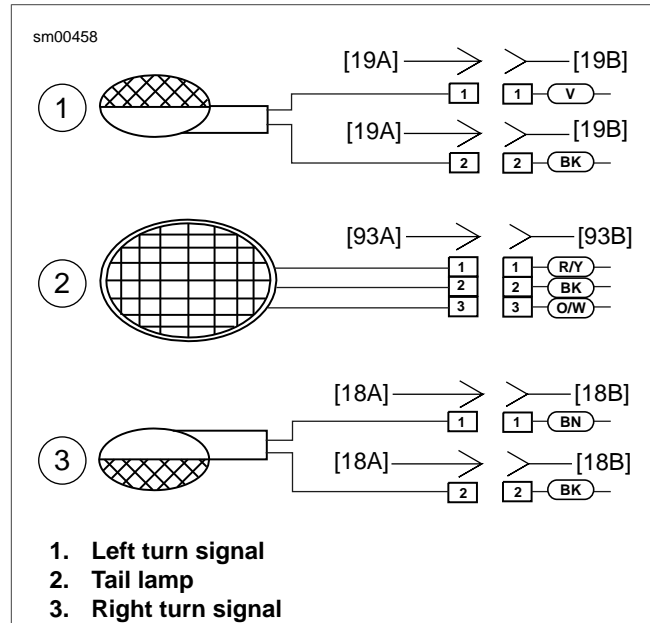

Figure 6-53. Rear Turn Signal Connections: Ulysses
3. See Figure 6-53. Separate left turn signal connector [18] and right turn signal connector [19].
2. Attach turn signal using lockwasher and jam nut (4). Tighten fastener to 25-28 **in-lbs** (2.8-3.2 Nm).
3. Attach bullet connectors on turn signal wires as shown in Figure 6-53.